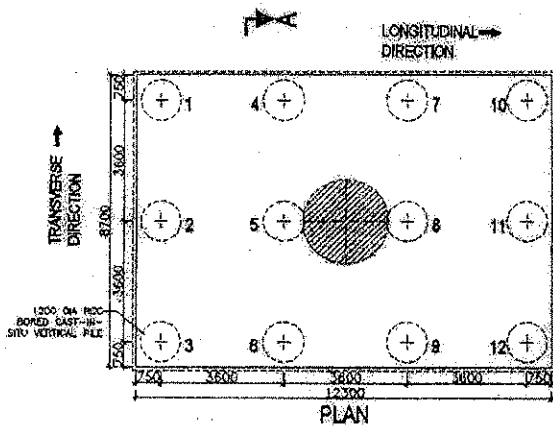

Figure -1a
1. Consider a Pile foundation with 12 nos. of piles as shown in the figure-1a & 1b for a four lane bridge. Design forces at pile cap top are Vertical load (P) = 1800 T; Moment in longitudinal direction (ML) = 350 Tm and Moment in Transverse direction (MT) = 200 Tm. Derive the maximum and minimum pile reaction for the above mentioned load case. Also specify the pile ID subjected to maximum and minimum loads. Consider a shift of 150mm in pier position along longitudinal direction.